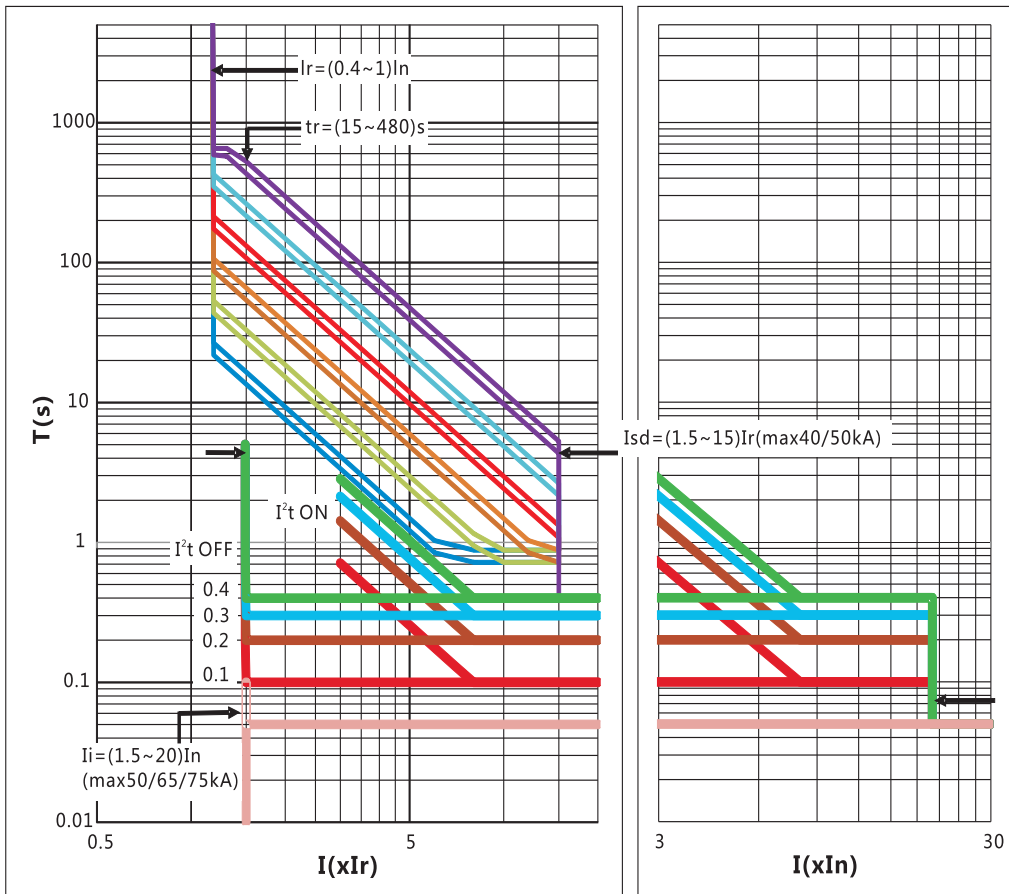

Figure 1.Over-current protection curve
4.2.1 Please see Figure 1 for Over-current protection characteristic curve